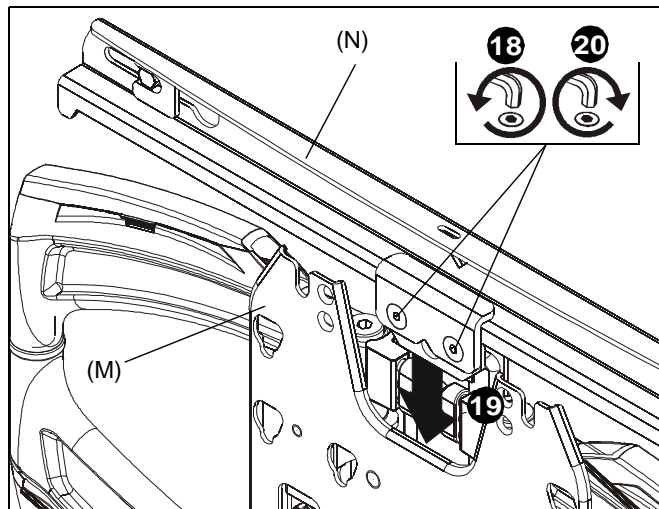

Figure 11
18. Loosen two flat head cap screws on upper carriage rail in order to loosen white spacer. (See Figure 11)
19. Remove white spacer from mount. (See Figure 11)
20. Tighten flat head cap screws. (See Figure 11)